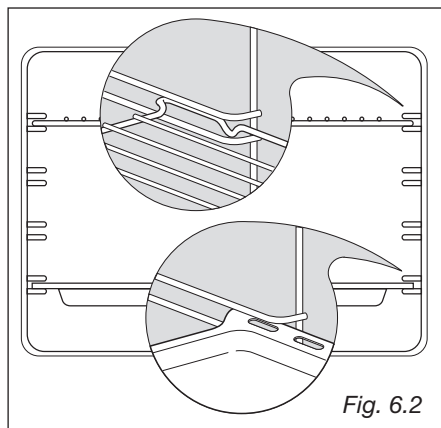

Fig. 6.2
- Slide in, on the guides, the shelf and the tray (fig. 6.2).